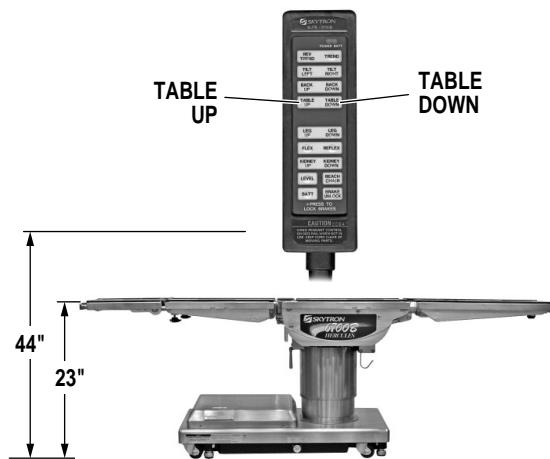

Figure 2-9. Elevation Function
**e. Elevation.** To raise table top, press the TABLE UP button (figure 2-9). The table will lift a patient weight of 1,200 pounds up to a maximum height of 44" (48" with X-Ray top and 2" pad). To lower the table top, press the TABLE DOWN button. The table top will go down to a minimum height of 23".